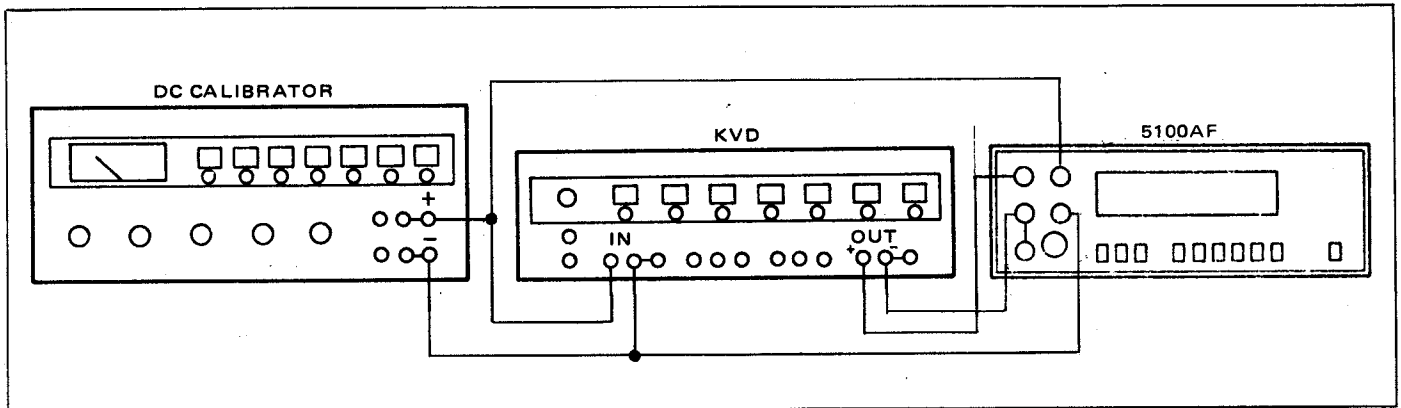

Figure 5.5 - Ratio Test Hookup
- Set the DMM to DCV and Ratio functions and the 1 volt range (manual). Connect the DMM as shown in the figure 5.5 test setup. Set the divider to  $.1900000$  and adjust the DC voltage standard to  $+2.000000$  volts for the input to the divider and to J103 (EXT REF HI) and J104 (EXT REF LO). Connect the output of the divider to J103 (Hi) and J102/J105 (Lo).
- Connect the DMM as shown in the figure 5.5 test setup.